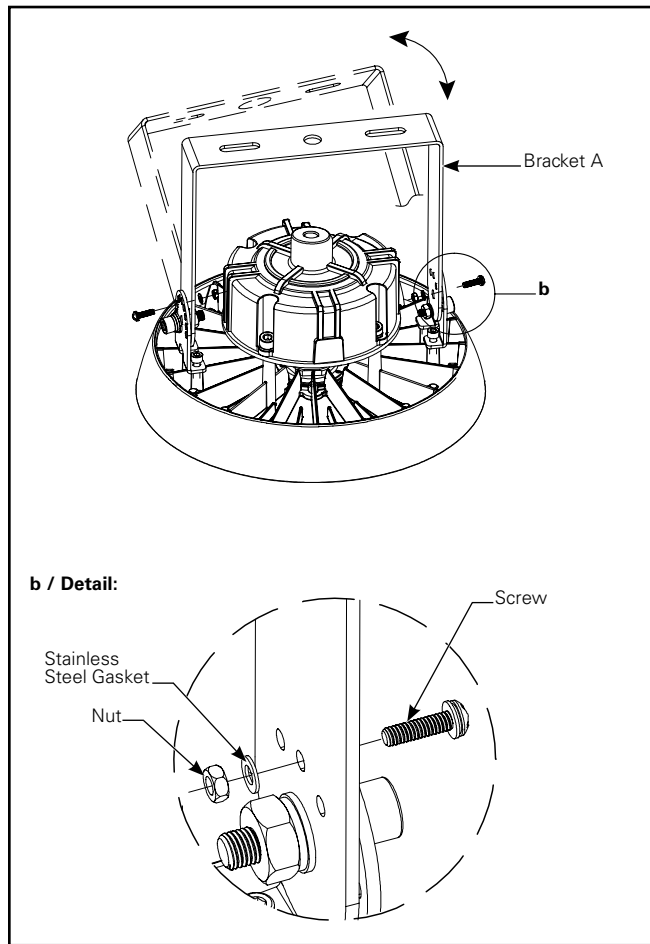

Figure 12.
3. Adjust the angle of Bracket A, and then lock into place. (Figure 12.)